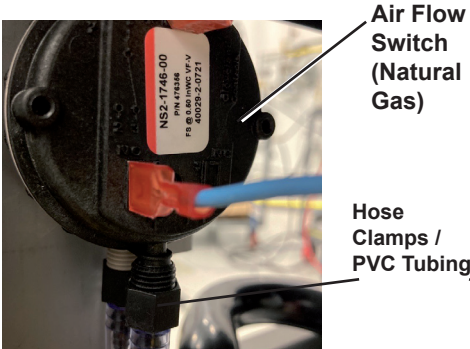

Figure 8.
11. Remove the Air Flow Switch with the Red line on the label. See Figure 8.